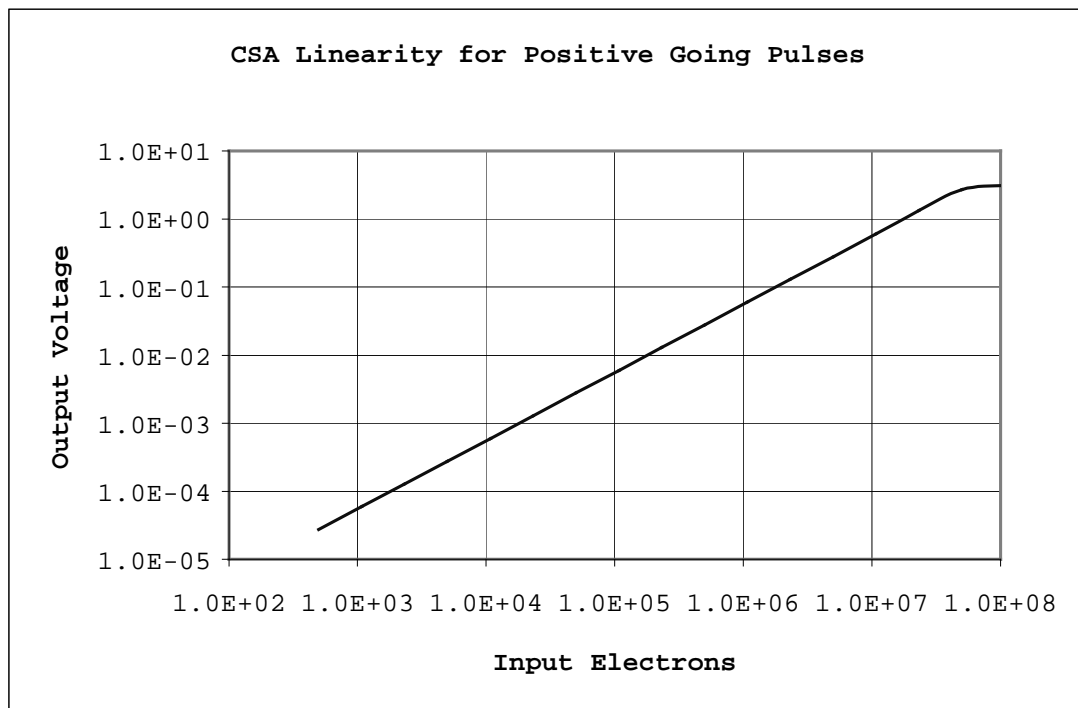

Figure 5: CSA Linearity for Positive Going Output Pulses
- Figure 5: CSA Linearity for Positive Going Output Pulses
The CSA is linear for both positive and negative going pulses. This is illustrated in Figures 5 and 6. For the positive going output pulses, the CSA_GND voltage was 2.5 Volts. CSA_GND was held at 4 Volts when the CSA produced negative going output pulses. It is important that CSA_GND be set accordingly to achieve the maximum range over which the responses remain linear. The characterization was performed in the high-gain mode.